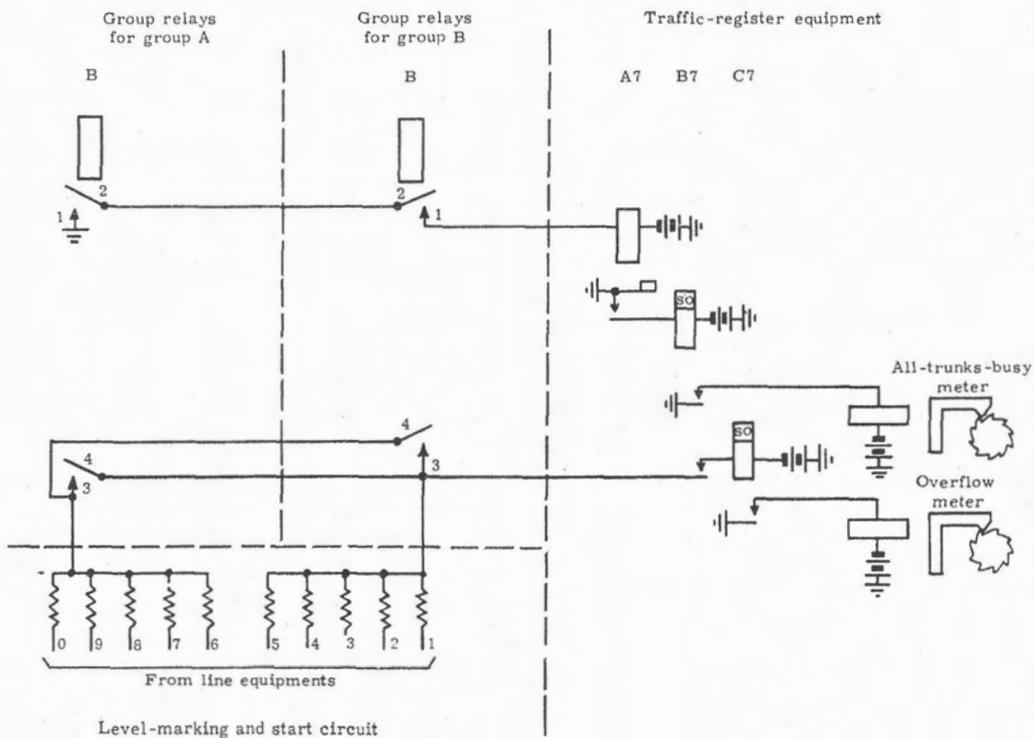

Figure 39. All-trunks-busy metering and overflow metering.
6.62 All-trunks-busy metering (figure 39). Group relay B releases whenever all linefinders of that group are busy (§5.2). When all linefinders of both groups are busy, both group relays B release, and operate weighted-spring relay A7. If this all-trunks-busy condition exists more than a couple of seconds, relay A7 ceases vibrating and operates relay B7 which operates the ATB (All Trunks Busy) meter, which counts the number of times all the shelf's linefinders are busy.
6.63 Overflow metering (figure 39). During an all-trunks-busy condition, both group relays B are released, and relays A7 and B7 are operated. Any line calling at this time will ground the level-marking and start lead and therefore operate relay C7 which will operate the OF (OverFlow) meter. This meter tends to count the number of calls attempted by calling subscribers who did not receive dial tone because all linefinders were busy, but will not give that count exactly if there are